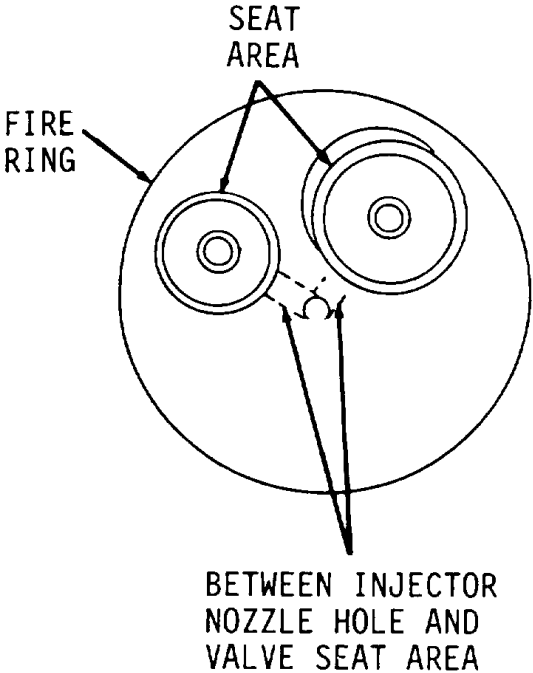

Figure 13-9.
- 5. Inspect combustion surface for damage and erosion across fire ring, seat area, between injector nozzle hole and valve seat area (Figure 13-9). Discard and replace head if erosion is severe. If erosion is slight, refer to step 11 for grinding instructions.